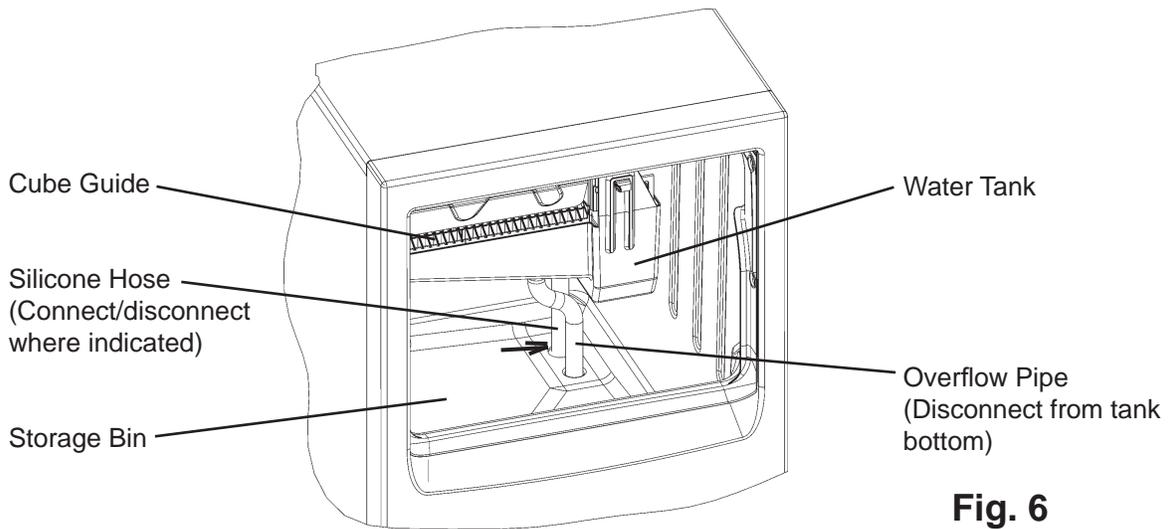

Fig. 6
- 2) Drain the water tank by pulling off the overflow pipe from the water tank bottom and the silicone hose from the storage bin bottom. See Fig. 6.